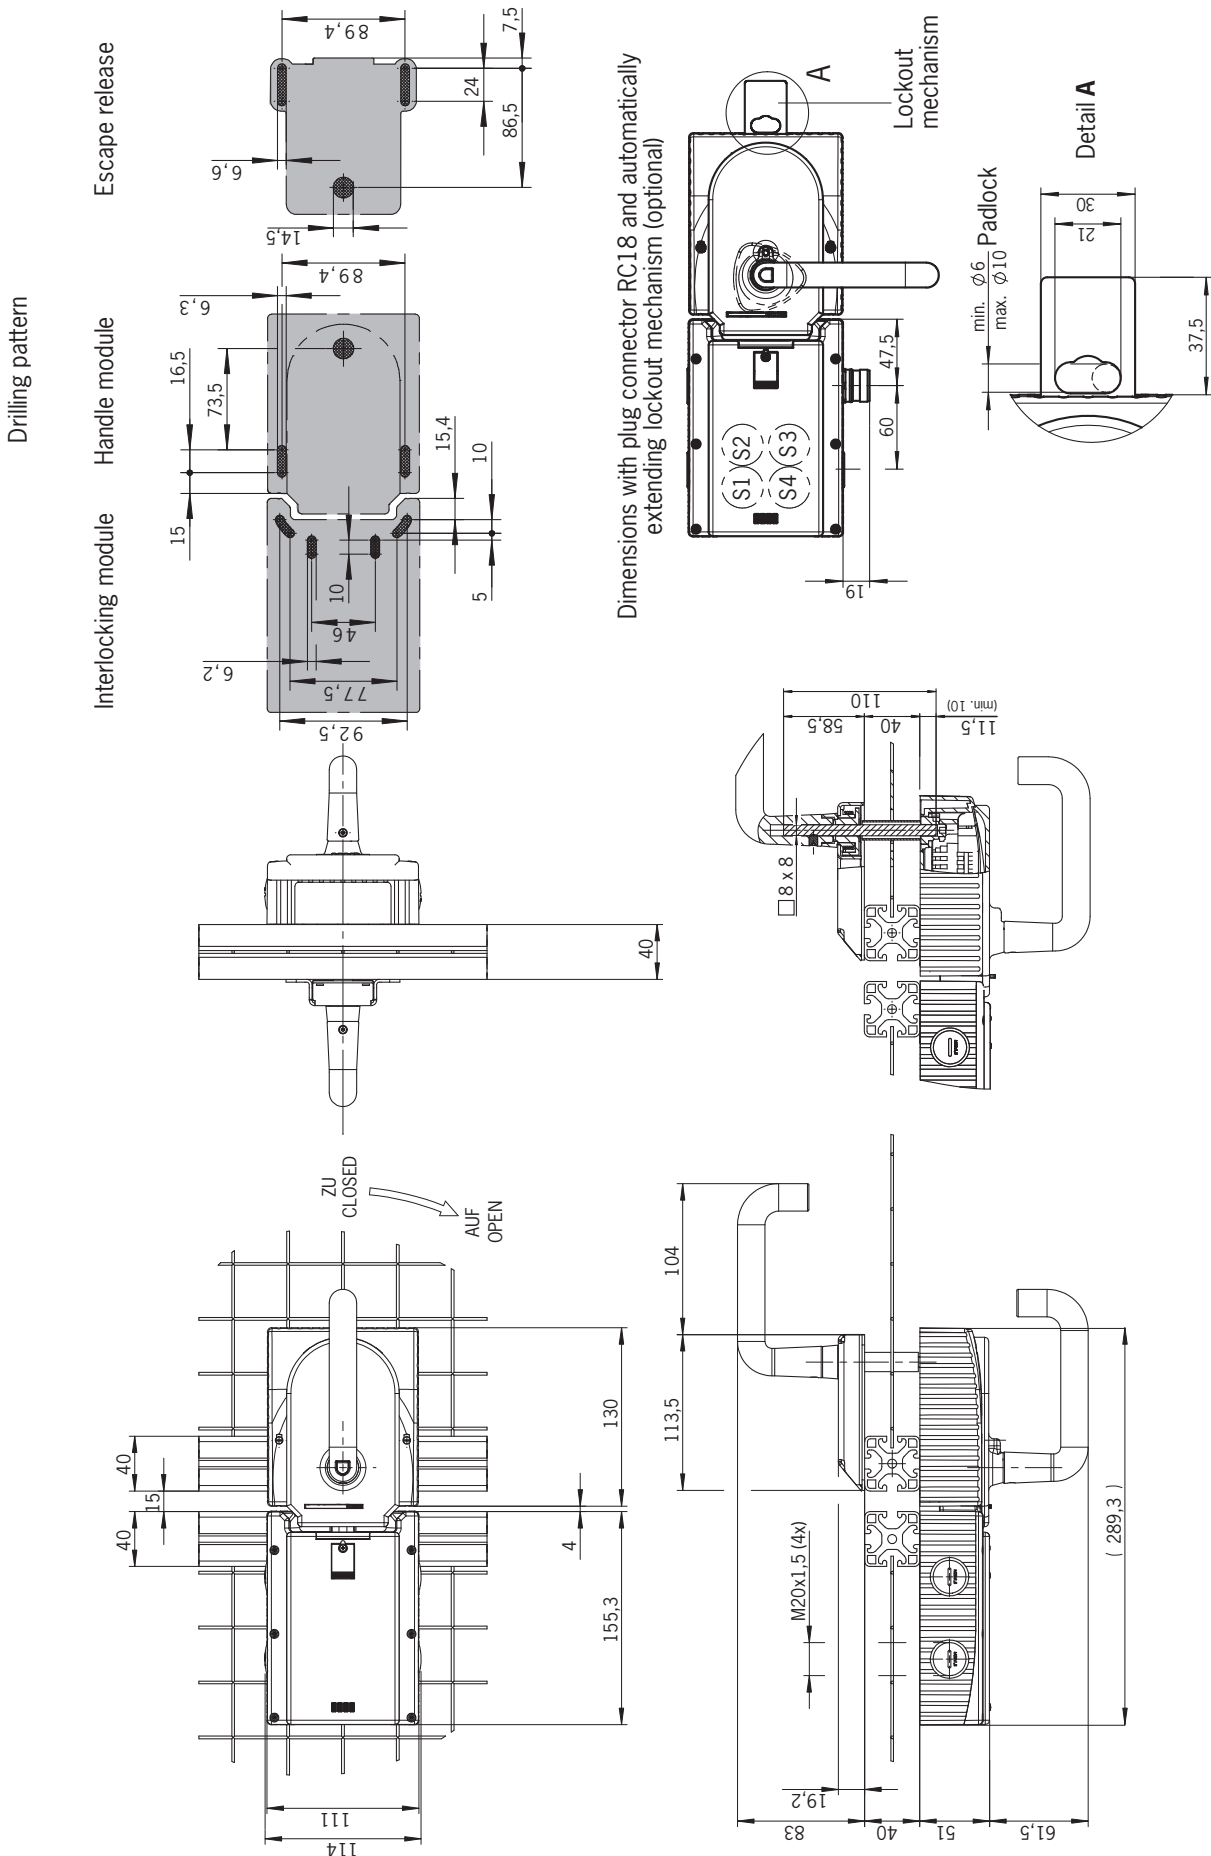
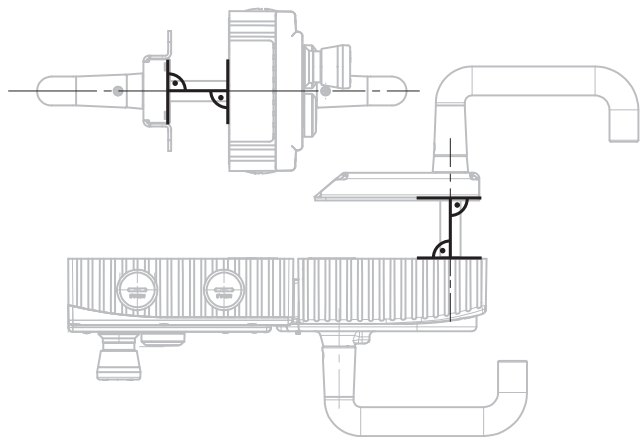

Figure 4: Dimension drawing MGB fitted, without optional mounting plates
Figure 7: Installation example for door hinged on the right (general view)
- Align escape release axis at right angles to the handle module. See *Figure 4* and *Figure 7*.
For mounting steps, see *Figure 7* and *Figure 8* to *Figure 13*.